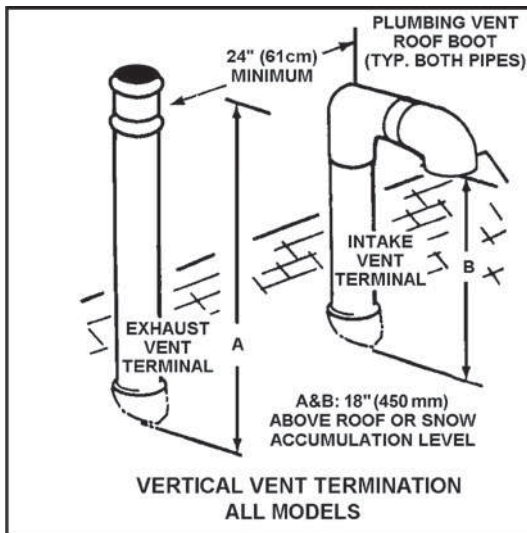

Figure 13
4. The center line of the air intake termination and the center line of the exhaust vent termination must be no closer than 24" (61cm). See Figure 13 and Figure 14.